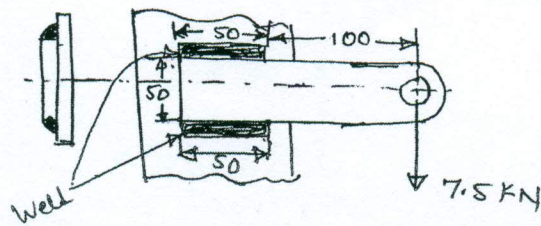

Fig. Q7 (a)
- 7 a. A welded connection as shown in Fig. Q7 (a) is subjected to an eccentric force of 7.5 kN. Determine the size of weld if the permissible shear stress for the weld is limited to 100 MPa. (10 Marks)